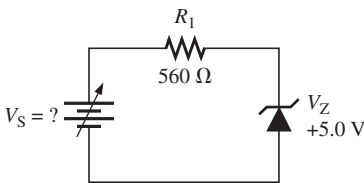

FIGURE 2-78
14. Figure 2-78 shows a zener diode regulator designed to hold 5.0 V at the output. Assume the zener resistance is zero and the zener current ranges from 2 mA minimum (I_{ZK}) to 30 mA maximum (I_{ZM}). What are the minimum and maximum input source voltages for these currents?